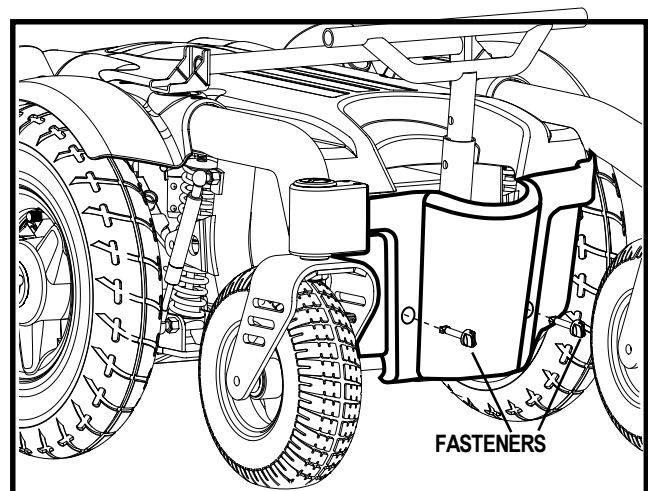

Figure 11. Front Shroud Removal
11. Remove the front shroud from the power base. See figure 11.